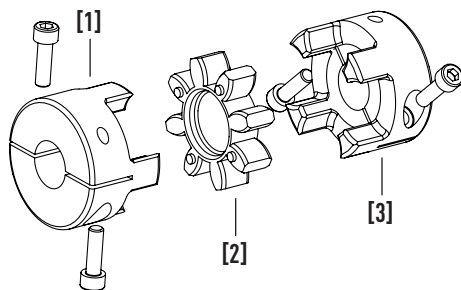

Fig. 6.45 Coupling assembly variant 2: clamping hubs with two clamping screws
- Variant 2 with two clamping screws, see Fig. 6.45